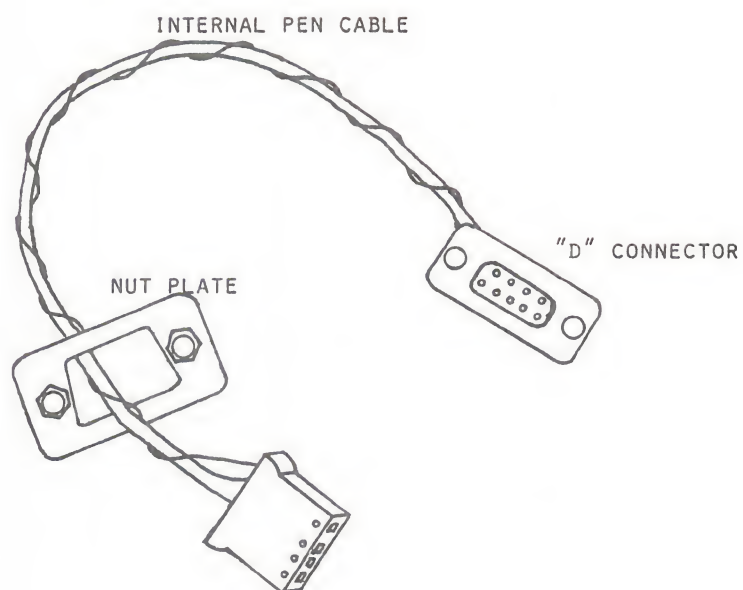

FIGURE 1
1. Find the internal pen cable and one of the nut plates (see Figure 1). This cable has a "D"-shaped connector at one end and a small slip-on connector at the other end with four holes in it. Put the slip-on connector through the nut plate, with the nuts facing away from the "D"-shaped connector.
1. Find the internal pen cable and one of the nut plates (See Figure 1). This cable has a "D"-shaped connector at one end and a small slip-on connector at the other end with four holes in it. Put the slip-on connector through the nut plate, with the nuts facing away from the "D"-shaped connector.